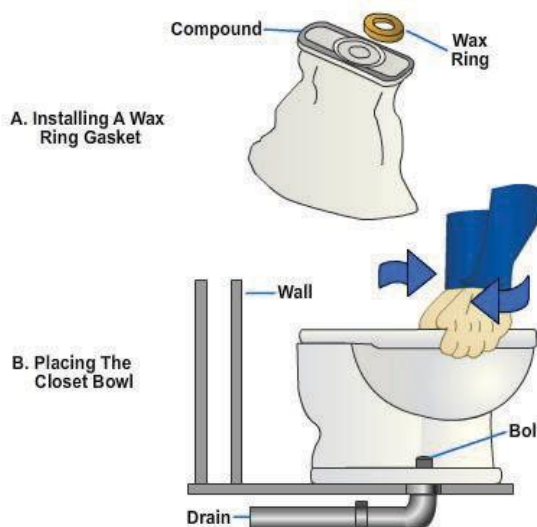

Figure 6-3 – Setting a closet bowl.
4. On the bottom of the water closet, as shown in *Figure 6-3, View A*, slip the preformed sealing ring over the horn to form a sealing gasket for the water closet against the face of the flange. Do not use putty as it will dry out and leave a possible sewer gas leak.
5. Turn the water closet bowl right side up and set it on the flange with the horn projecting down into the flange. Place a wedge under the low side of the water closet if unlevel. In setting the bowl on the flange, as shown in *Figure 6-3, View B*, guide the two hold-down bolts up through the bolt holes on either side of the base of the water closet. Use your full weight to press down and twist